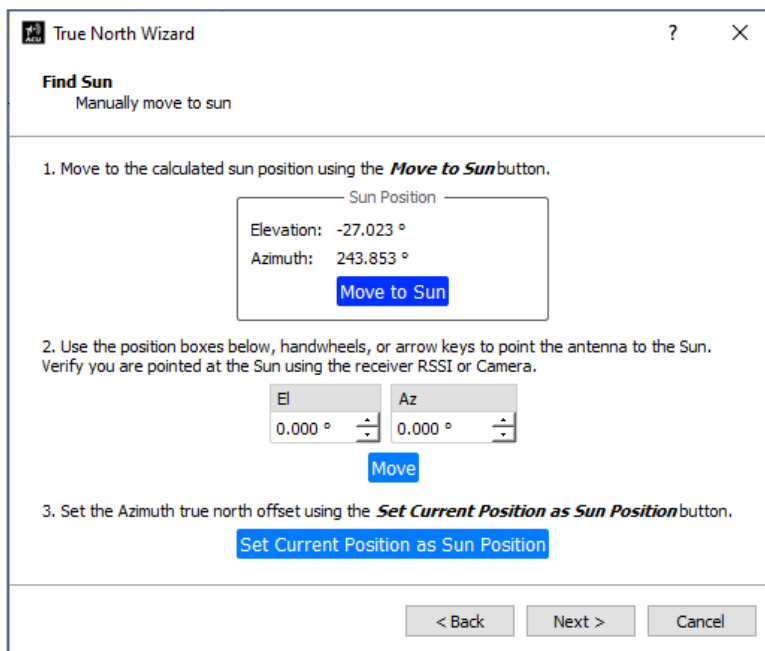
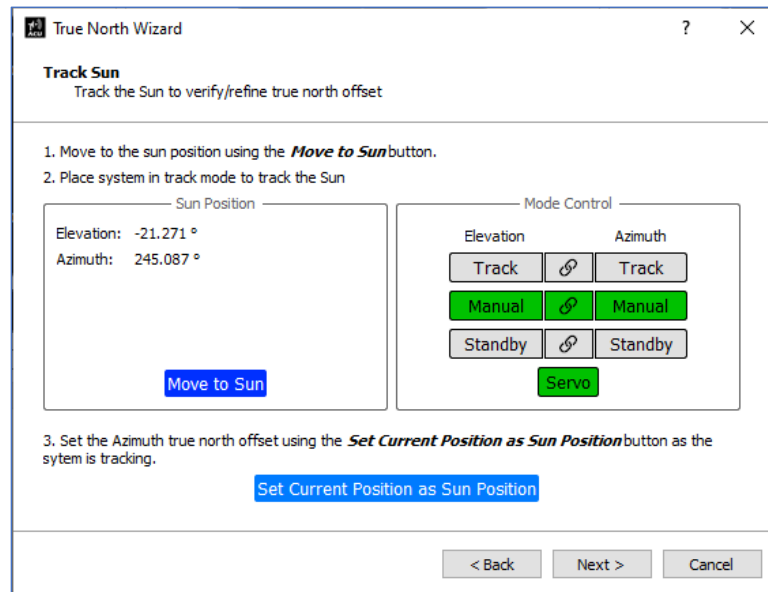

Figure 61: True North Wizard, Find Sun
Figure 62: True North Wizard, Track Sun
6. On the True North Wizard, Find Sun window, shown in Figure 61, point the antenna at the sun by selecting the Move to Sun button, or by manually moving the HyperTrack™, as shown in Figure 62.